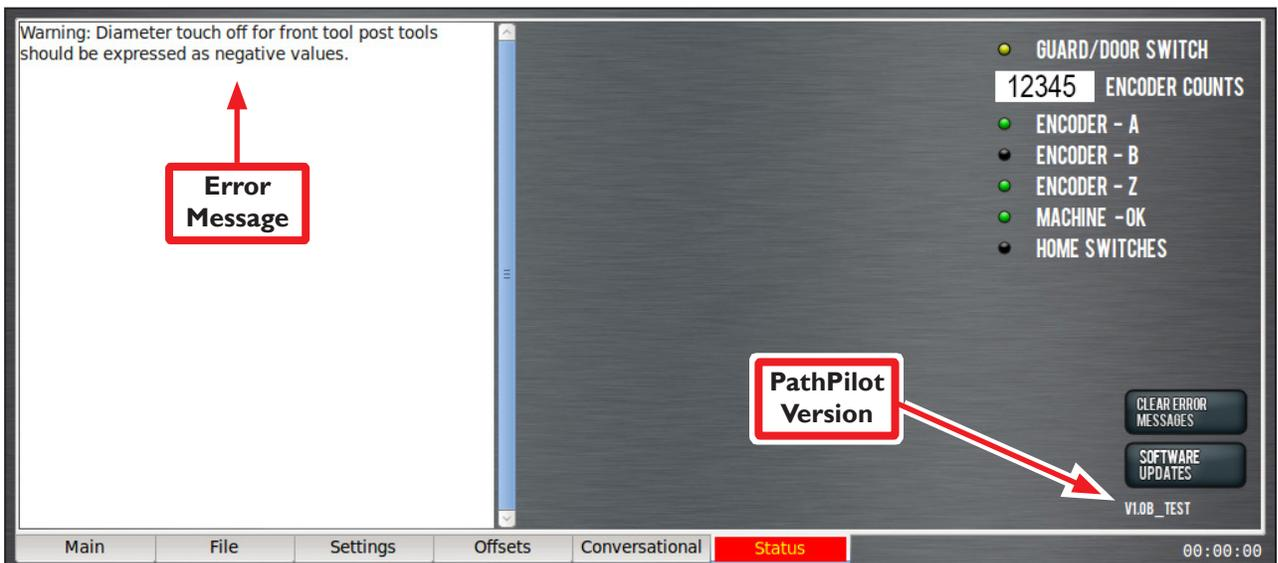

Figure 5.53
If the operator enters information on a *Conversational* page that doesn't match the information in the tool table – for instance entering positive diameters but selecting a front tool post mounted tool – the *Status* screen displays error message in the text box as well as images of the expected tool orientation and the actual tool orientation (see **Figure 5.53**).
**NOTE:** The current PathPilot version is listed in the lower right corner of the screen (see **Figure 5.53**).